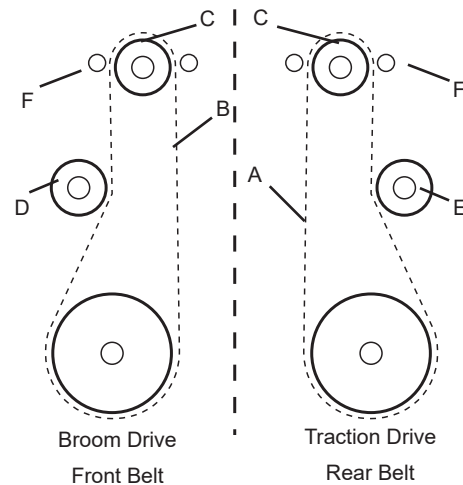

Figure 13 Belts and Pulleys
3. Remove the broom drive belt as follows, Figure 13:
- a. Loosen the bolts on the engine belt guides and move them (F) away from the pulley.
- b. Slip the broom drive belt (B) from the engagement pulley (D) by pushing the pulley away from the belt.
- c. Pull the belt out between the broom pulley (D) and traction pulley (F).
5. Reverse the procedure to install the belts. Be sure there are no twists and the belts are properly seated in the grooves. The patterns for the drive belts are shown in Figure 13 Belts and Pulleys.